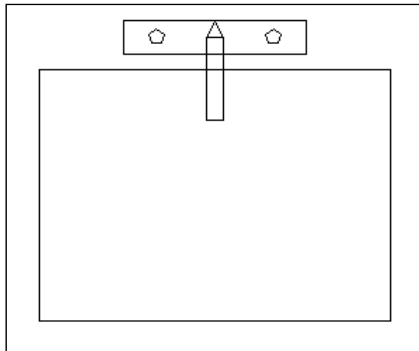

Figure 6-2: The completed sink, drawn with rectangles and polygons.
17. Turn off the grid to get a better look at the drawing. You have completed the sink, which should look like Figure 6-2. Save your drawing.